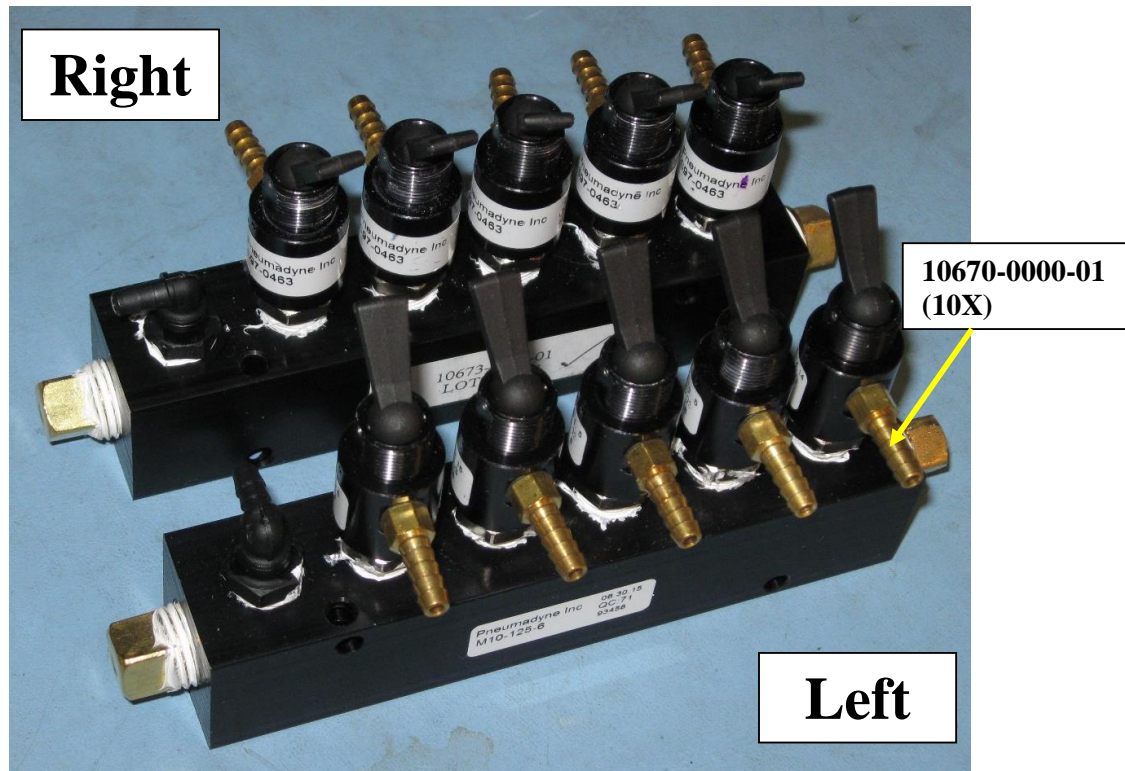

Figure 4
3. Install the End Plugs (10671-0000-01) using #10 wrench as shown in Figure 4.
4. Install the Elbow fitting (10672-0003-01) using #11 wrench as shown in Figure 4.
5. Install the Toggle Valves (10667-0001-01) using a 1/2" wrench. When installing the Toggle Valves maintain a 1" distance as shown in Figure 2. Install the valve closest to the elbow first and move in order till the end of the manifold block. Turn valves so that openings are facing one side on one manifold and on the opposite side on the other manifold as shown in Figure 4.
6. Use a 1/4" nut driver to install the 10-32 x 1/8" barb fittings (10670-0000-01) into the side of the toggle valves as shown in Figure 4. Tighten until snug.